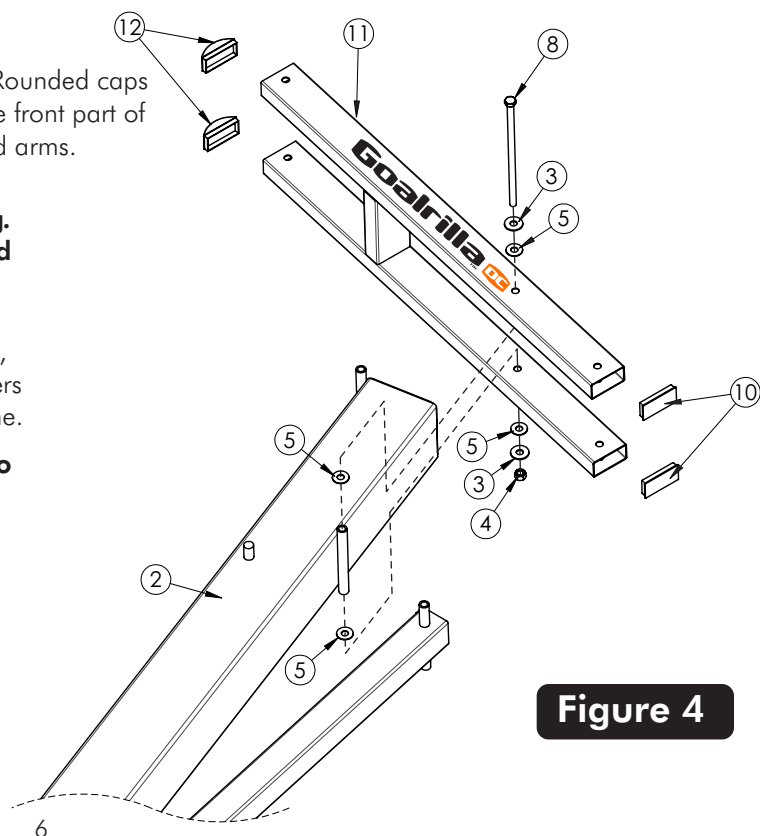

Figure 4
- Attach lower arm (#11) to Pole (#2), as shown in Figure 4, using a bolt (#8), two flatwashers (#3), four plastic washers (#5) and hex nut (#4). Do not tighten bolt (#8) at this time.